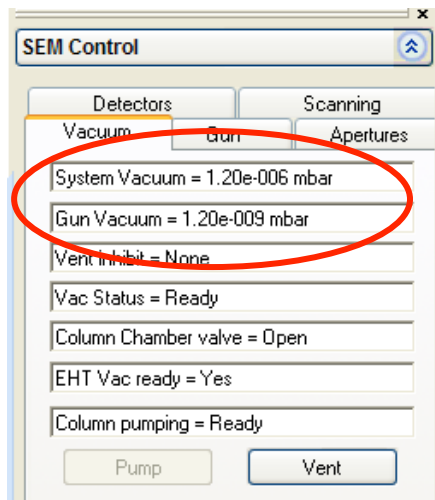

Figure 9: Vacuum tab.
4. Check that the system vacuum is below $2e^{-5}$ mbar and that the gun vacuum is below $5e^{-9}$ mbar. See Figure 9.